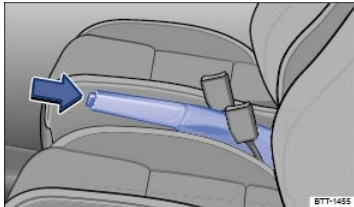

Fig. 118 Between the front seats: Parking brake.
- Pull the lever up slightly and press the release button ⇒ Fig. 118 (arrow).